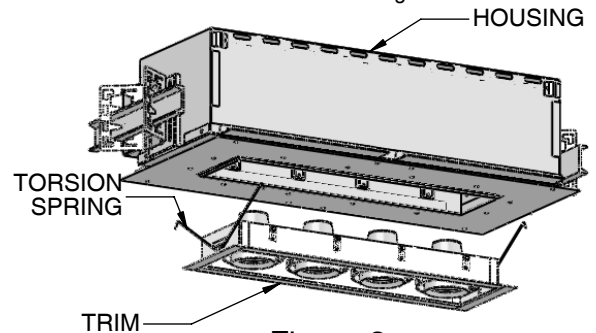

Figure 3
8. Pull the TRIM away from the HOUSING. The TORSION SPRINGS will hold the TRIM onto the HOUSING. Compress the TORSION SPRINGS on each end of the TRIM, releasing the TRIM from the HOUSING. See Fig 3.